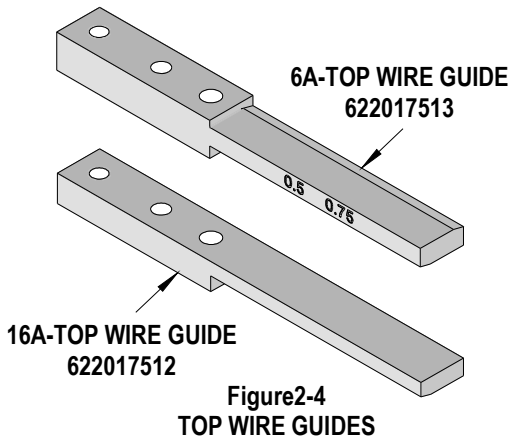

Figure 2-4
There are two (2) wire top guides, one for 6A wire and one for 16A wire (See Figure 2-4). These must be changed depending on the wire being used.
3. Load the wires individually by inserting them in the wire guides then pushing them through the holes in the connector and up against the stop (See Figure 2-4).